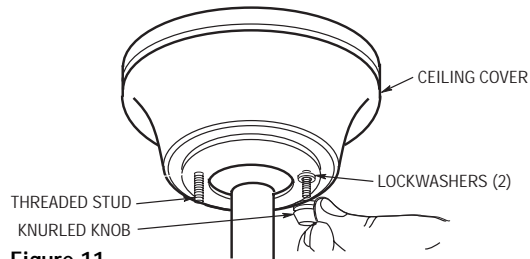

Figure 11
- 4. Lift the ceiling cover up to the threaded studs and turn until studs protrude through the holes in the ceiling cover (Figure 11).
- 5. Secure the ceiling cover in place by sliding lockwashers over the threaded studs and installing the two knurled knobs (supplied). (Figure 11). Tighten the knurled knobs securely until the ceiling cover fits snugly against the ceiling and the hole in the ceiling cover is clear of the downrod. Your fan is now wired to be turned on and off from the fan switch.